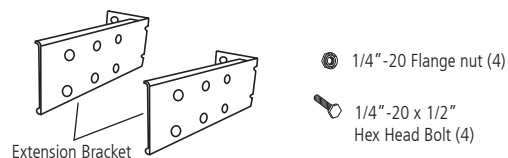

Fig. 74A
- Locate the mounting position for extension bracket as shown in Fig. 74A.